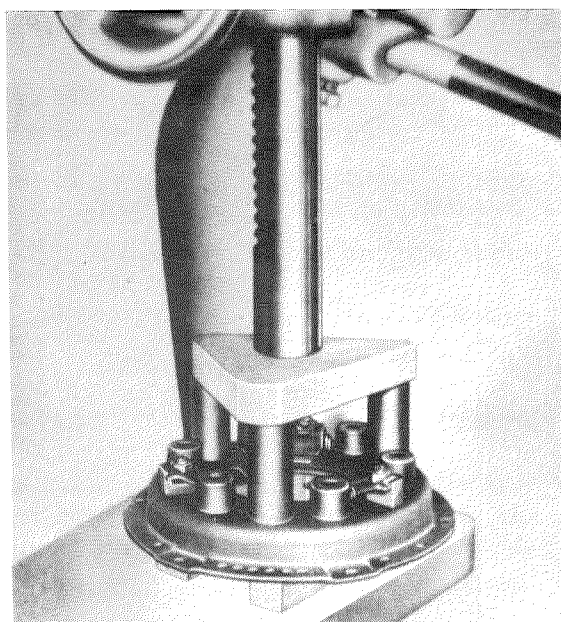

Fig. 25 — 4/2
2. Place the pressure plate on a suitable stand and, using a wooden pad and three equal lengths of pipe, exert pressure on the cover plate by means of a press until the pressure on the release levers is released (Figure 25 — 4/2).